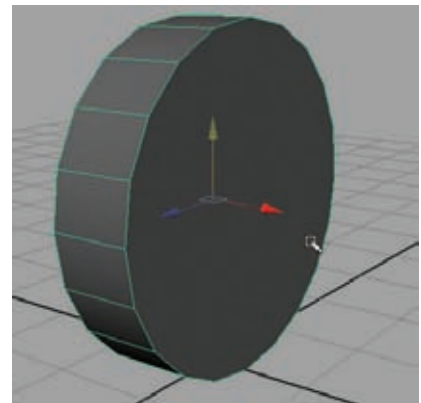

Figure 4.9
1. Hide your roll cage. You'll then start with a cylinder placed on its side. If you're following along with me, the cylinder should be scaled up about 1.5 units in the X and Z directions and .4 units in the Y, which creates a wheel shape, as in Figure 4.9.